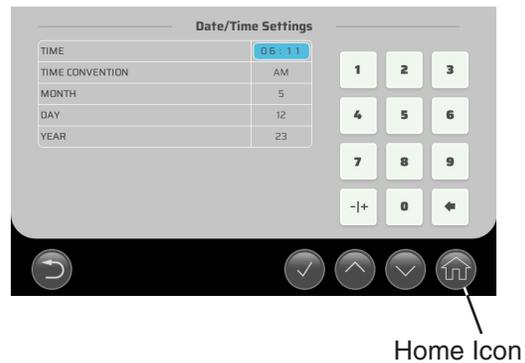

**Fig. 9**
- 3) If the settings icon is not visible, press and release the center of the RTD1 sensor temperature display. See Fig. 9.